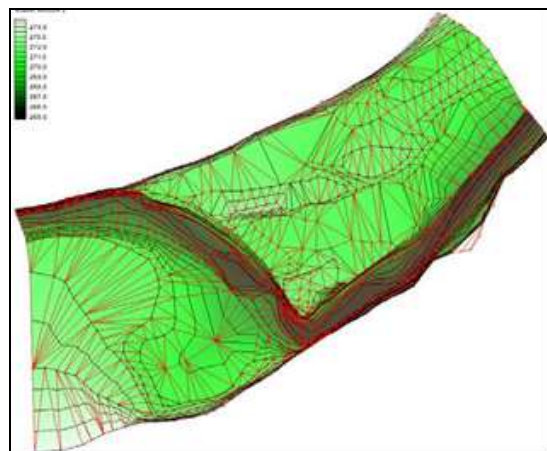

Figure 11 Clean TIN of the Cimarron River.
13. In the *Open* dialog, locate and click on the file “cimarron_updated.sms”. If asked to delete existing data, click **Yes**. The final scatter set should be like Figure 11. Users can also display the breaklines in this file to see the 26 created line used for cleanup.